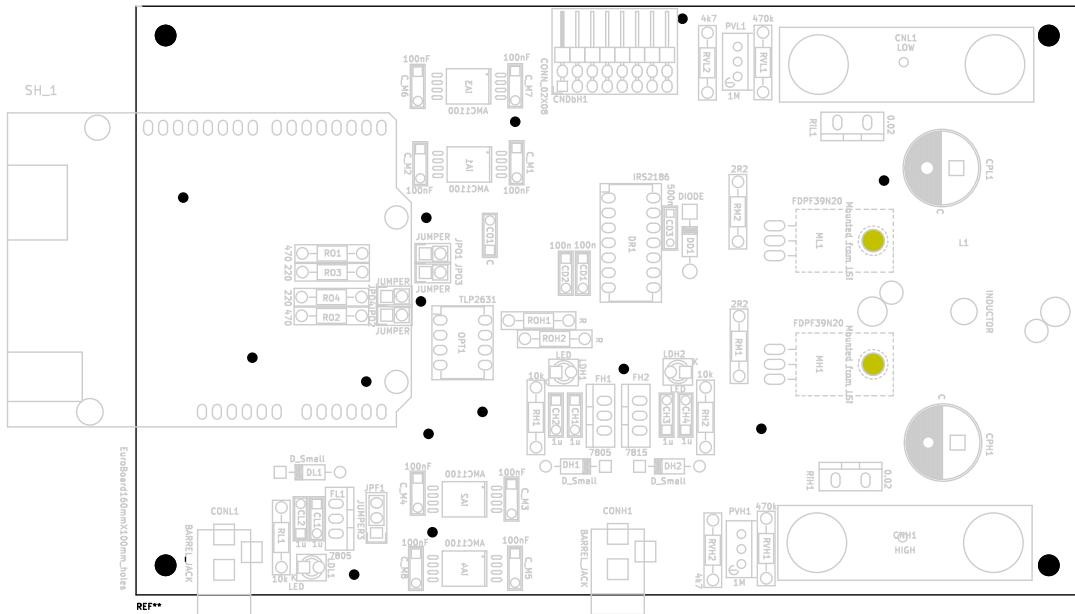

Figure 5: Components map
2. Identify the vias by comparing the PCB with figure 5